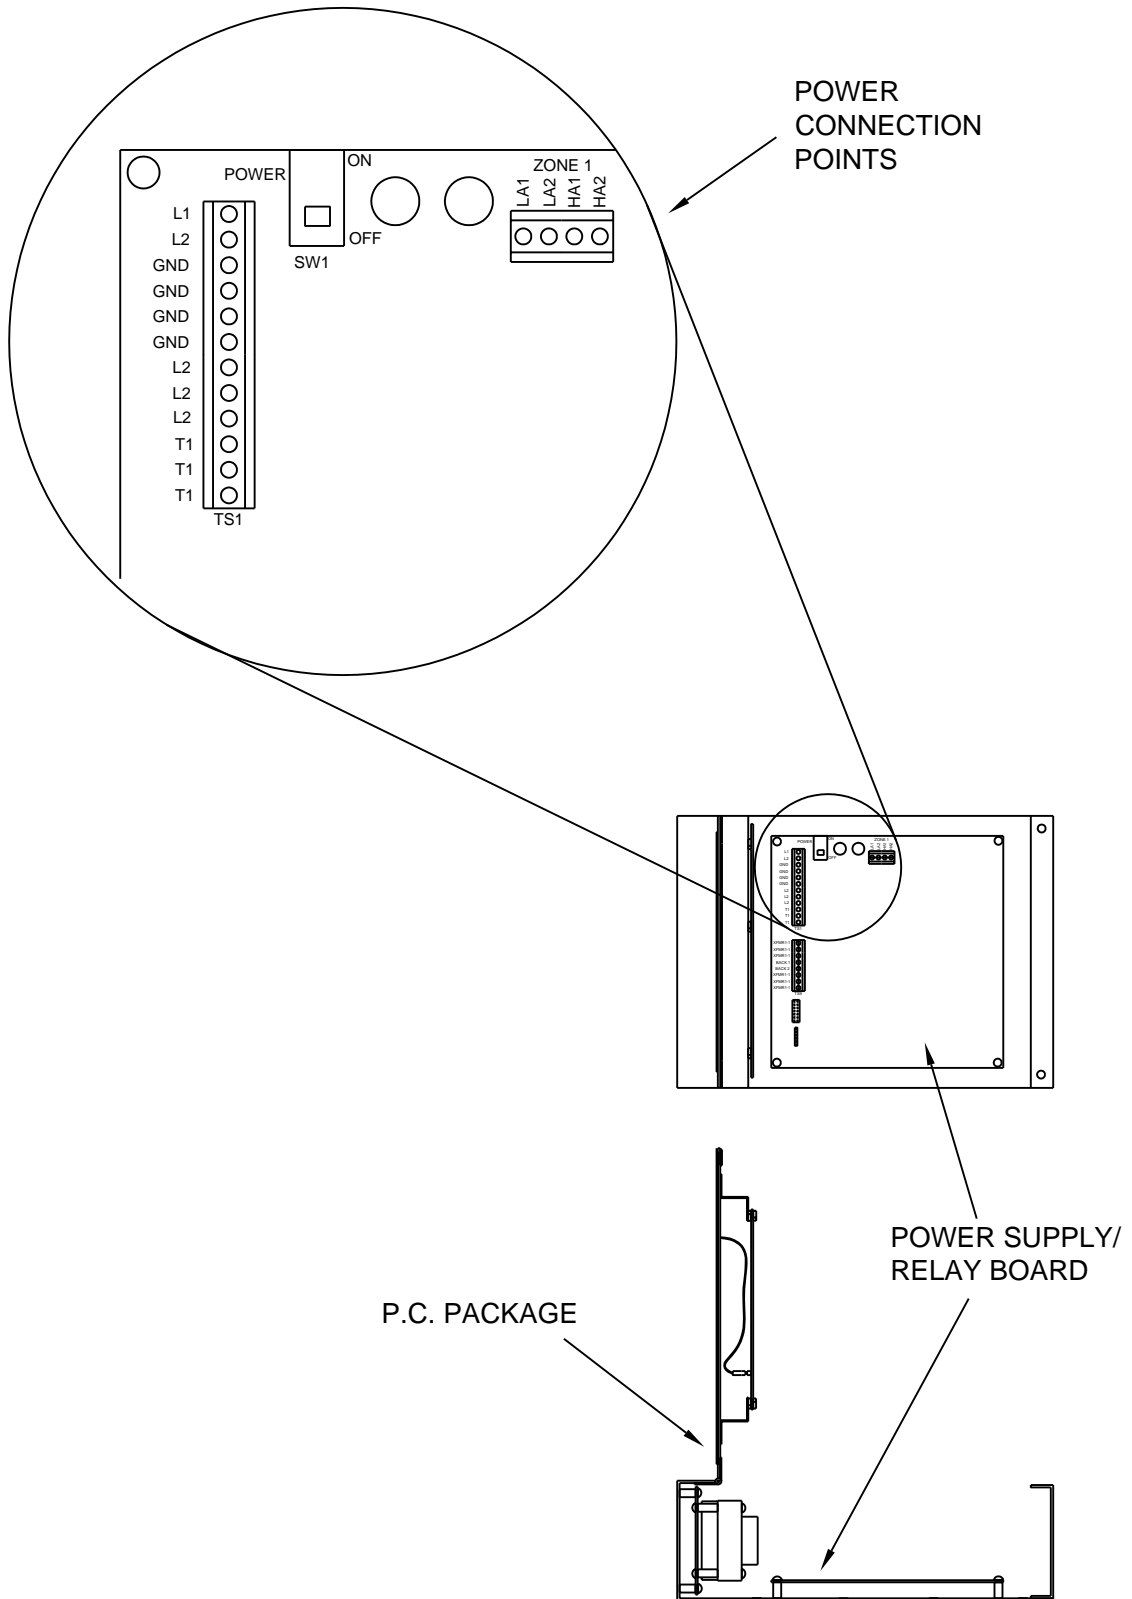

FIG. 3: GDCP-A power connection terminals.
5. Install a disconnect switch at the panel and connect a dedicated, 120 VAC, 50/60Hz. supply to the input of this device. Connect the output of the switch to the input power terminal strip, (TS1), of the panel. This terminal strip is located at the top, left corner of the Power Supply/Relay board located on the inside, back of the GDCP-A's P.C. package. See Fig. 3 for the location of this P.C. board. Fig. 4 shows the typical wiring for the system.